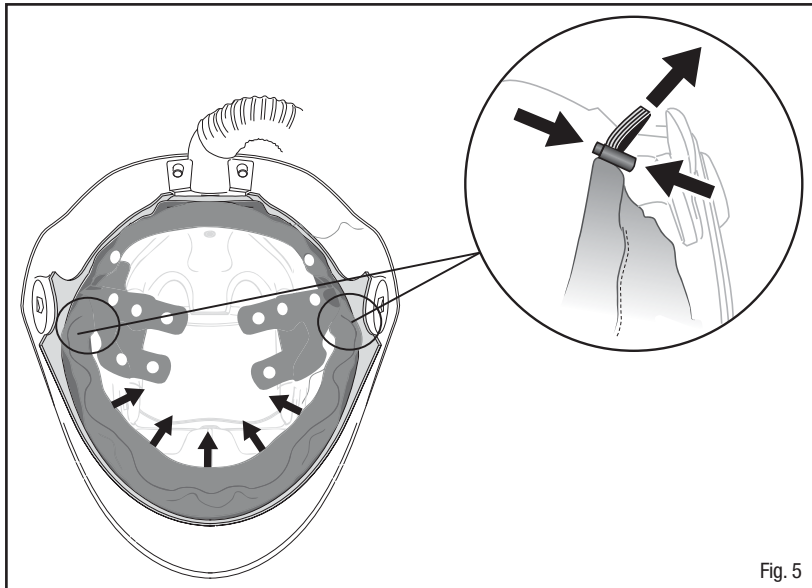

Fig. 5
- With the welding helmet on the head, grasp the faceseal and pull the faceseal over the chin and around the face. By pressing the barrel clip and pulling gently on the drawstring, adjust the faceseal until a comfortable fit is achieved (Fig. 5). There should be minimal gaps around the face and faceseal interface when the faceseal is adjusted appropriately.